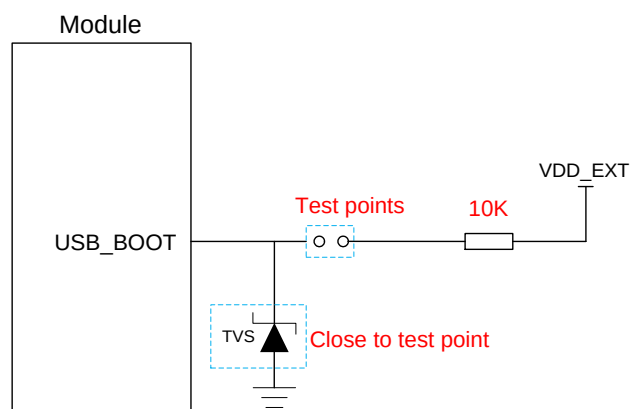

Figure 23: Reference Design of USB_BOOT Interface
3. When using MCU to control the module entering emergency download mode, follow the above timing. Connecting the test points as shown in Figure 23 can manually force the module to enter download mode.